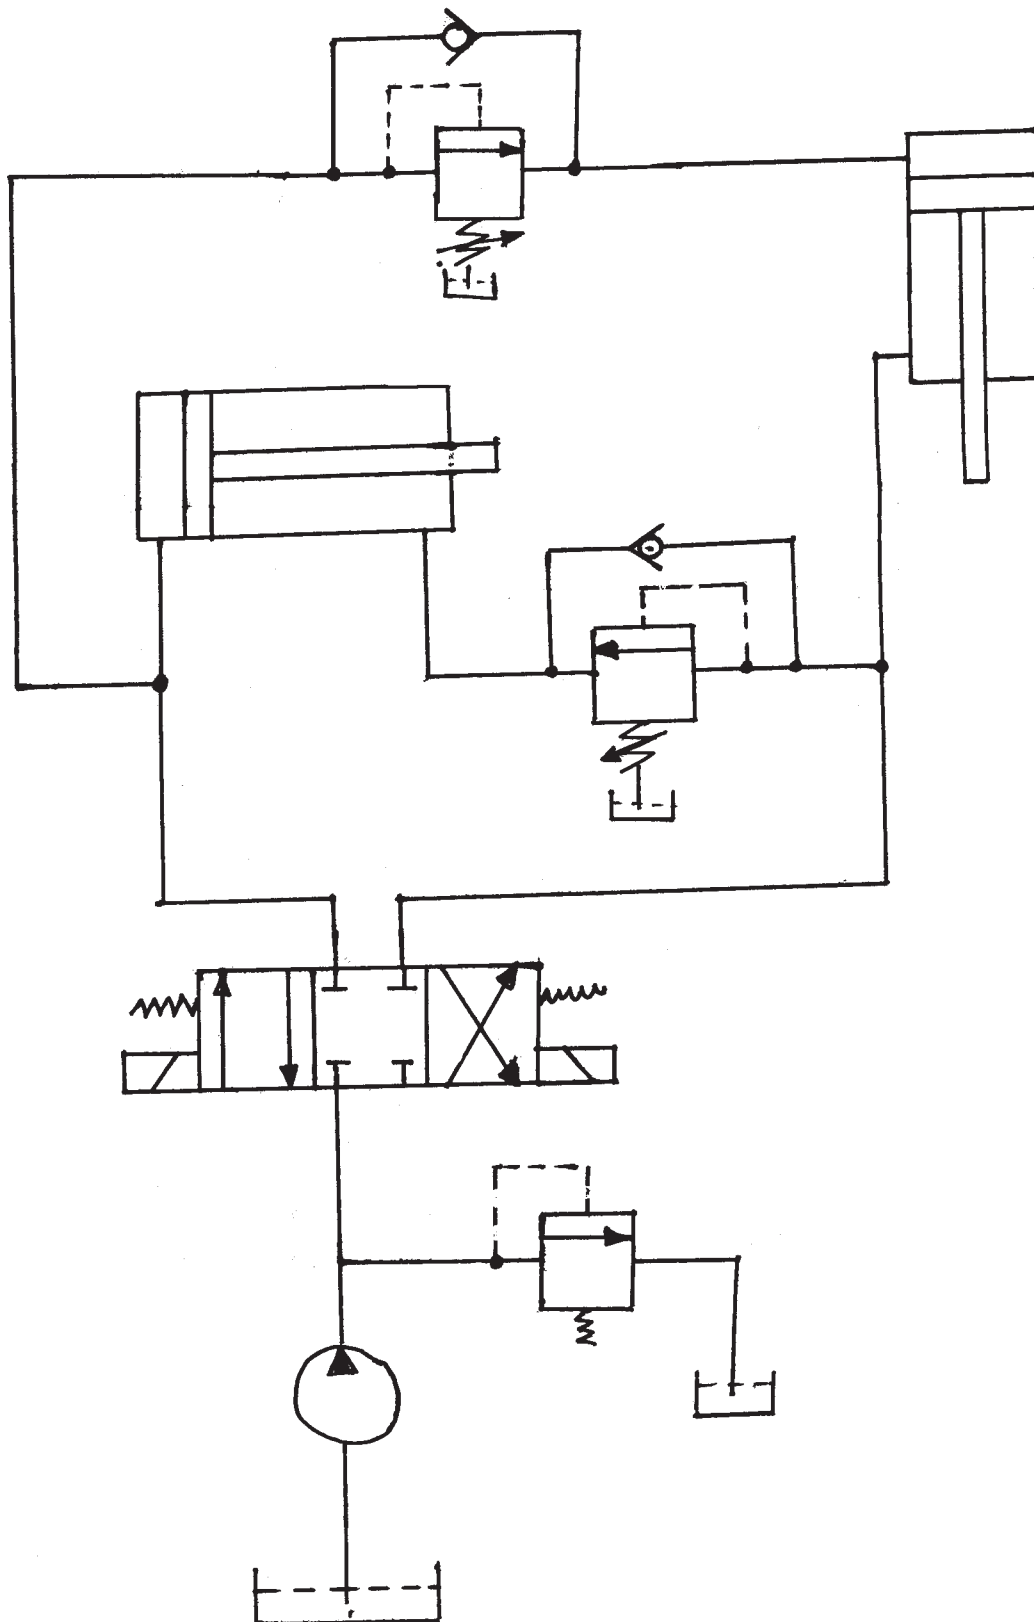

Fig. No. 1
c) Identify given circuit in Figure No. 1 and name the components.